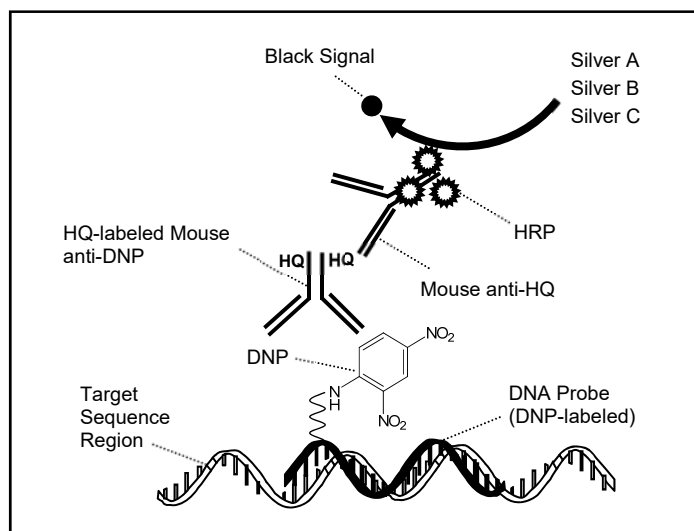

Figure 1. VENTANA Silver ISH DNP Detection
VENTANA Silver ISH DNP Detection Kit detects DNP-labeled probes bound to a specific sequence in formalin-fixed, paraffin-embedded (FFPE) tissue sections. The detection kit contains a primary antibody and an enzyme-labeled secondary antibody conjugated to horseradish peroxidase (HRP) which is used as the chromogenic enzyme. During the ISH staining process, DNP probes are co-hybridized to their respective specific target DNA sequences within the cell nuclei. VENTANA Silver ISH (SISH) DNP Detection Kit contains the following dispensers: mouse anti-DNP primary antibody labeled with hydroxyquinoline (HQ), mouse anti-HQ secondary antibody conjugated to horseradish peroxidase (HRP), Chromogen A (Silver A), Chromogen B (Silver B) and Chromogen C (Silver C). Following incubation with the HQ-labeled mouse anti-DNP primary antibody and then mouse anti-HQ HRP secondary antibody conjugate, the SISH reaction occurs. Briefly described, this reaction is driven by the sequential addition of Chromogens A (silver acetate), B (hydroquinone) and C (H_2O_2). Here, the silver ions (Ag^+) are reduced by hydroquinone to metallic silver atoms (Ag^0). This reaction is fueled by the substrate for HRP, hydrogen peroxide (Chromogen C). Figure 1 illustrates the SISH reaction. The specimen is then counterstained with Hematoxylin II for interpretation by light microscopy. The staining protocol consists of numerous steps in which reagents are incubated for pre-determined times at specific temperatures. At the end of each incubation step, the BenchMark IHC/ISH instrument washes the sections to remove unbound material and applies a liquid coverslip which minimizes the evaporation of the aqueous reagents from the slide. Results are interpreted using a light microscope and aid in the differential diagnosis of pathophysiological processes, which may or may not be associated with positive staining for the probe.